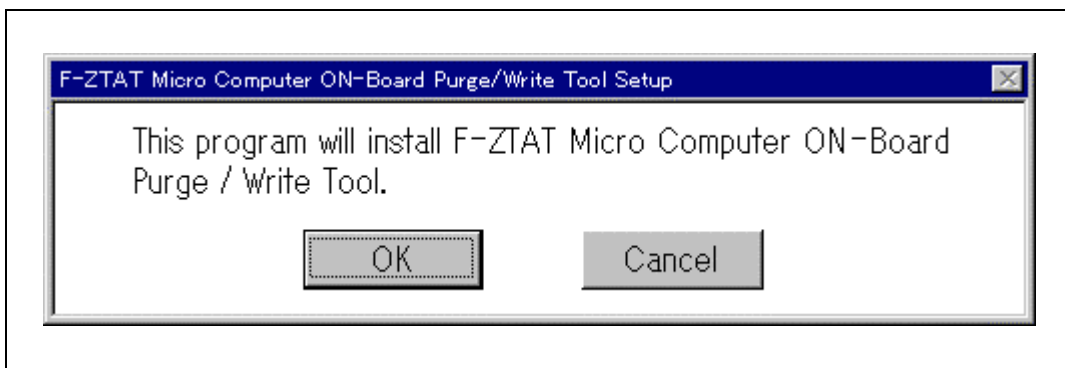

Figure 3.1 Installation Start Message
3. The message shown in figure 3.1 is displayed on the screen. Click OK to start the installation process, or Cancel to abort installation.